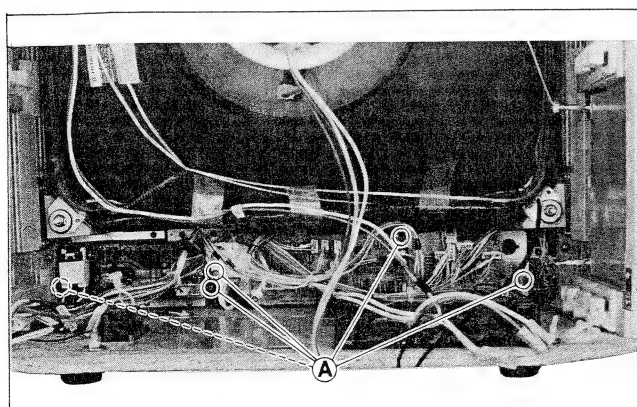

Fig. 8-4
1. Unscrew the five screws (A) shown in Fig. 8-4 after removing the chassis and input terminal ass'y.